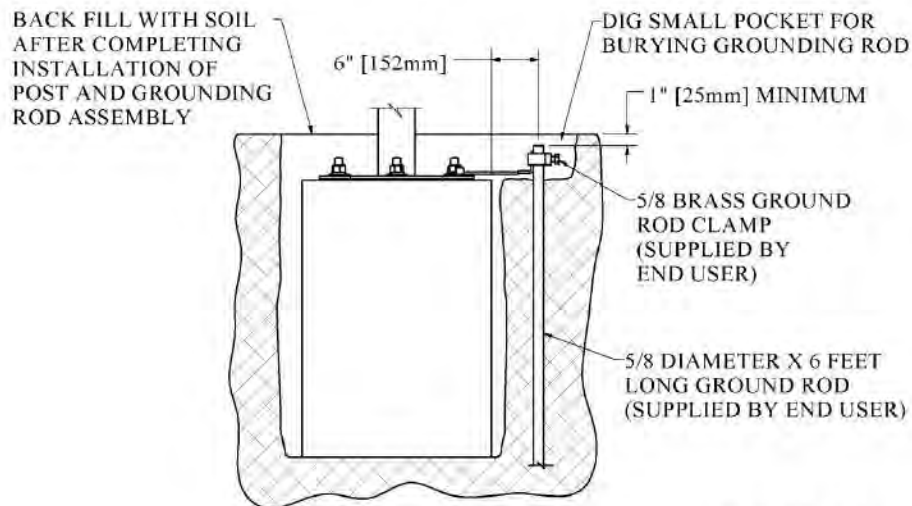

FIGURE 6
- Dig a small pocket in the ground (See Figure 6) about 3 or 4 inches deep near the copper clamp located on the Post Assembly Base Plate. Ensure the pocket breaks into the hole dug for the concrete.
Note: The 5/8" Dia. X 6' long Grounding Rod and 5/8" Brass Ground Rod Clamp shown in Figure 6 is not supplied, but easily purchased from local hardware stores or most Electrical supply stores.